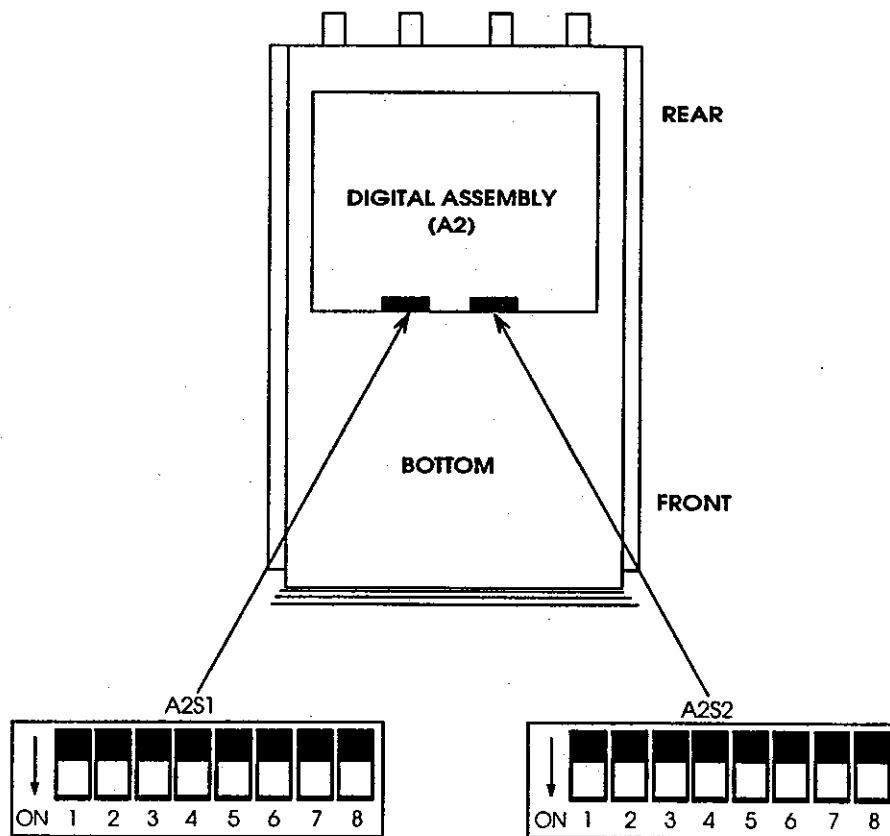

Figure H-4. Location of Switches A2S1 and A2S2 in the WJ-8712A and WJ-8712P
- b. Remove twelve (12) flat-head screws from the bottom cover and remove the bottom cover.
- c. Locate switches S1 and S2 on the A2 assembly (refer to **Figure H-4**).
- d. Set the switches S1 and S2 on the A2 assembly (refer to **Figure H-4**).
- e. Replace the bottom cover and secure it in place with the twelve (12) screws removed in step b.